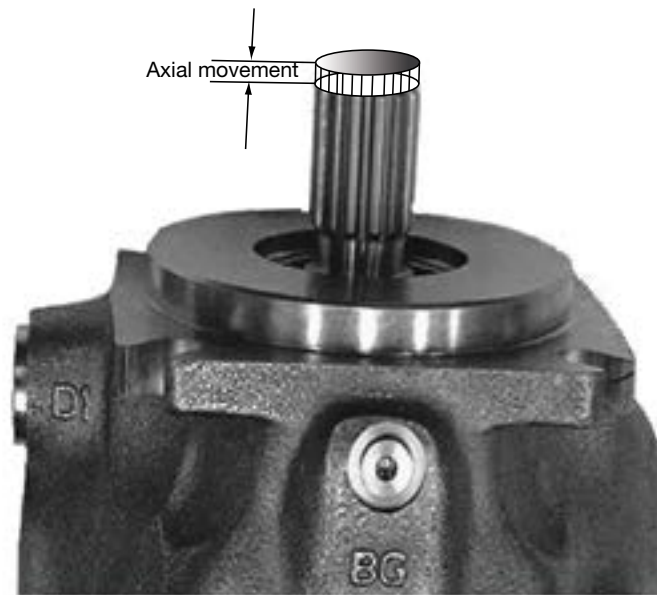

Figure 3
10. Grasp the shaft and pull it up and rotate it 3-5 times. Measure the height of the shaft end to the parallel bar. Note: if the shaft slips or fails, the steps must be repeated to get an accurate measurement. Figure 3.